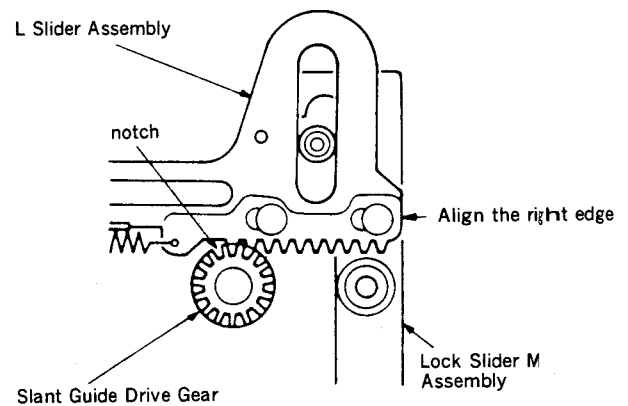

Fig. 2
- (1) Operate the L-mode select button of the Mode Selector and align the right edge of the L Slider Assembly and the right side of the Lock Slider M Assembly. (fig. 2)
Note: At this time, check that the position of the notch on the Slant Guide Drive Gear is placed as shown in figure 2.